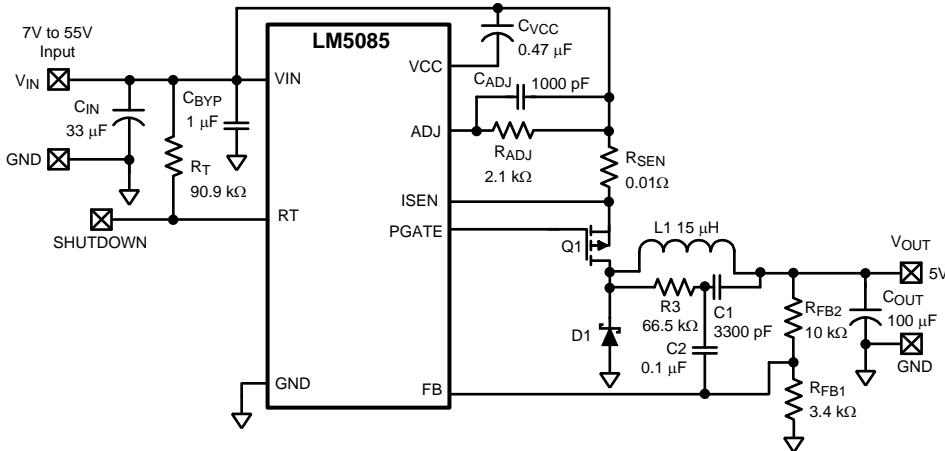
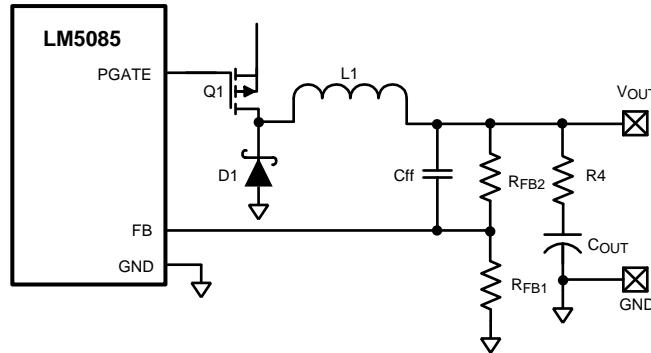

Figure 24. Example Circuit
Figure 26. Reduced Ripple Configuration
The final circuit is shown in Figure 24, and its performance is presented in Figure 28 through Figure 31.
The minimum ripple configuration employing C1, C2, and R3 in Figure 24 results in a low ripple amplitude at V_{OUT} determined mainly by the characteristics of the output capacitor and the ripple current in L1. This configuration allows multiple ceramic capacitors to be used for V_{OUT} if the output voltage is provided to several places on the PC board. However, if a slightly higher level of ripple at V_{OUT} is acceptable in the application, and distributed capacitance is not used, the ripple required for the FB comparator pin can be generated with fewer external components using the circuits shown below.
a) Reduced ripple configuration: In Figure 26, R3, C1 and C2 are removed (compared to Figure 24). A low value resistor (R4) is added in series with C_{OUT}, and a capacitor (Cff) is added across R_{FB2}. Ripple is generated at V_{OUT} by the inductor ripple current flowing through R4, and that ripple voltage is passed to the FB pin via Cff. The ripple at V_{OUT} can be set as low as 25 mVp-p since it is not attenuated by R_{FB2} and R_{FB1}. The minimum value for R4 is calculated from:
b) Lowest cost configuration: This configuration, shown in Figure 27, is the same as Figure 26 except C_{ff} is removed. Since the ripple voltage at V_{OUT} is attenuated by R_{FB2} and R_{FB1} , the minimum ripple required at V_{OUT} is equal to:
(Circuit of Figure 24)**